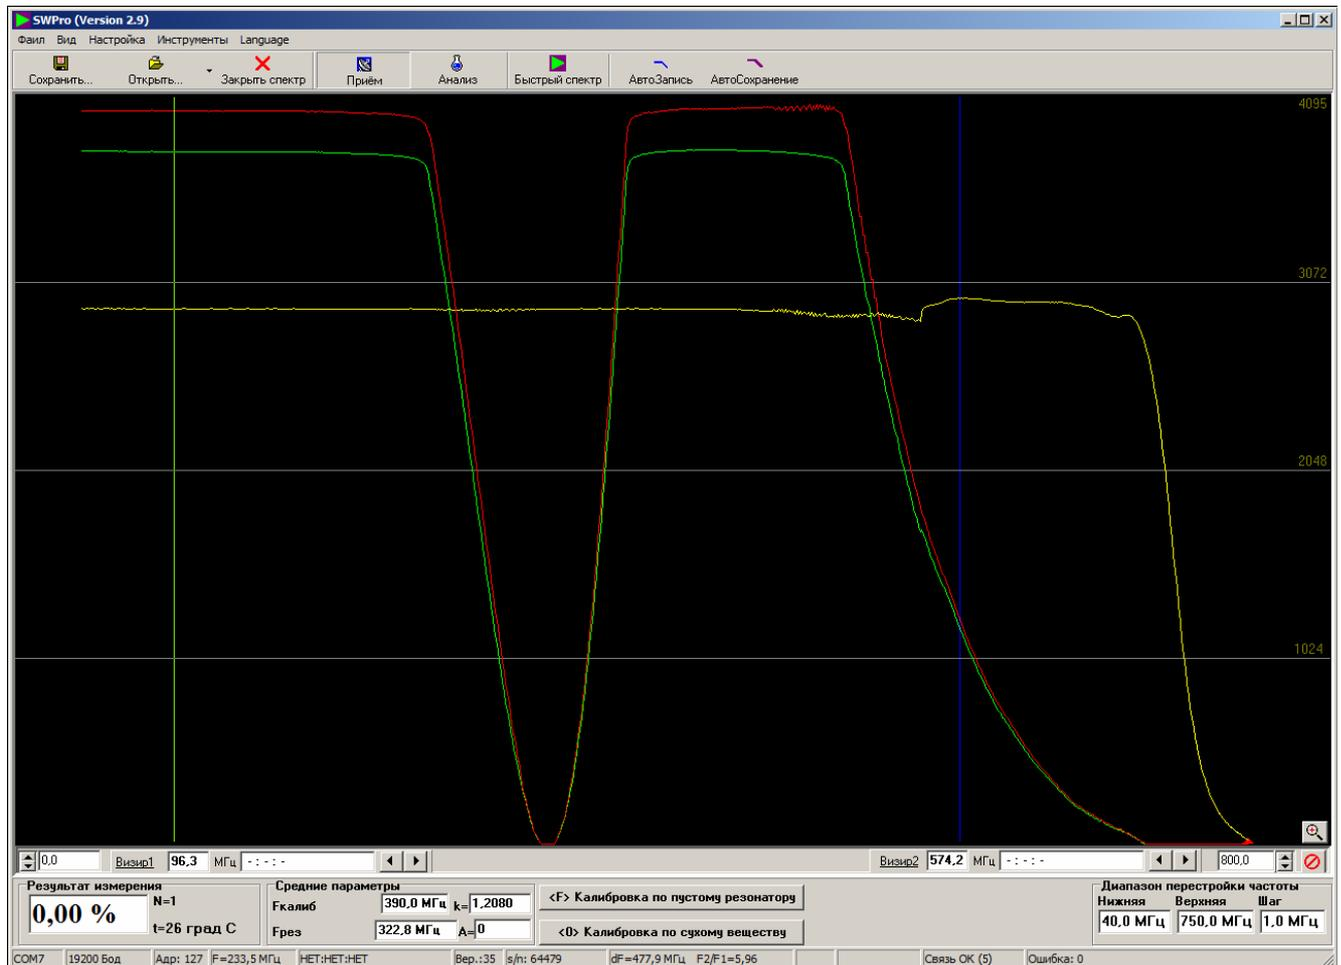

Fig. 1
The main window of the program (see Fig. 1) can be divided into three parts. The upper part of the window consists of menus and shortcuts for moisture meter and software control. The mid-section represents a field for displaying signal (spectrum) charts. The bottom section displays connection parameters and measurement results received from the moisture meter as well as moisture meter main setup parameters.
The program icon, SWPro name (program identifier), and software version number are displayed in the upper left corner in the main window of the program (see Fig. 1).
1) $U(f_1) \leq U(f_2)$. This condition indicates that analysis uses only that df range, for which the graph point corresponding to the right end is higher or equal to point corresponding to the left end (see Fig. 1).